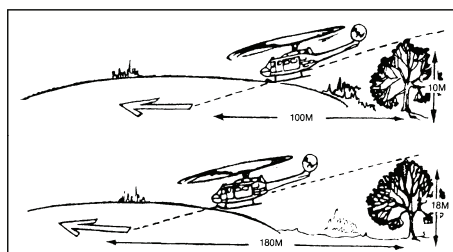

Figure 3-36. Approach or departure routes
- (1) A helicopter requires a relatively level landing area 30 meters in diameter. This does not mean that a loaded helicopter can land and take off from an area of that size. Most helicopters cannot go straight up or down when fully loaded. Therefore, a larger landing site and better approach and departure routes are required.
- (2) When obstacles are in the approach or departure routes, a 10 to 1 ratio must be used to lay out the landing site. For example, during the approach and departure, if the helicopter must fly over trees that are 15 meters high, the landing site must be at least 150 meters long ($10 \times 15 = 150$ meters). Refer to Figure 3-36.